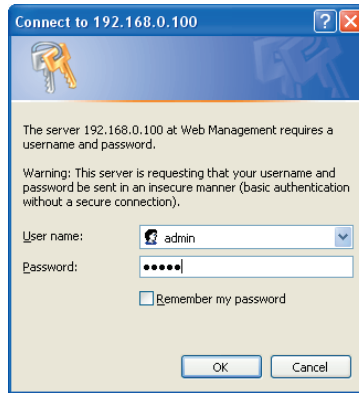

Figure 6-2: Login Screen
2. When the following dialog box appears, please enter the default user name and password "admin". The login screen in Figure 6-2 appears.